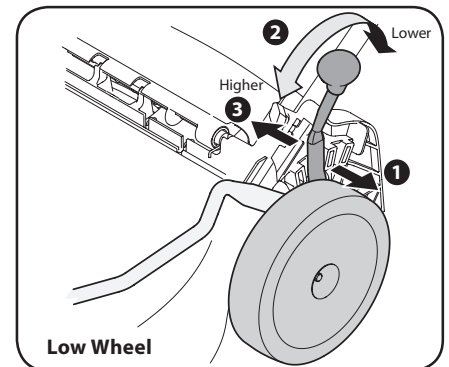
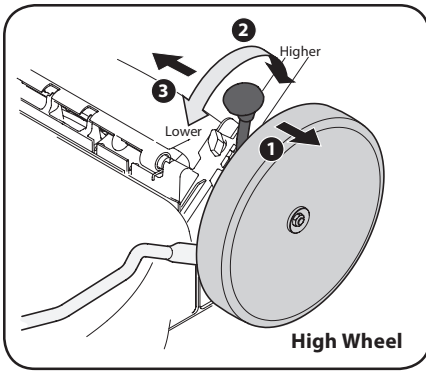

Figure 2-12
Figure 2-13
- Slide lever to desired position for a change in cutting height. Refer to Figure 2-12 for low wheel and Figure 2-13 for high wheel.